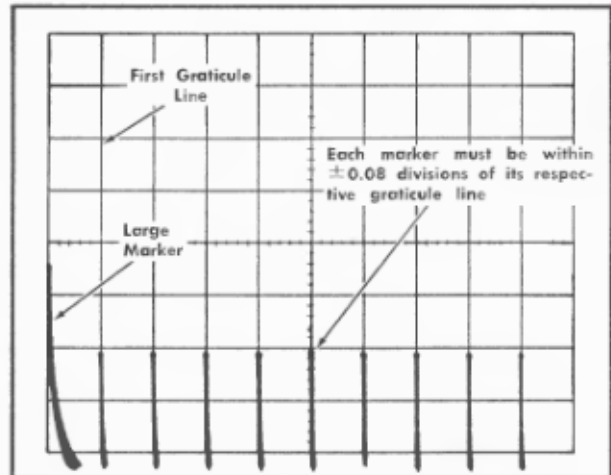

Fig. 6-45. Typical CRT display when checking magnifier timing and linearity.
- c. CHECK—CRT display for one small marker each division between the first and ninth graticule line (see Fig. 6-45). With the second marker positioned to the first graticule line, the tenth marker must be within ± 0.16 division of the ninth graticule line (timing within $\pm 2\%$ when normal sweep calibration, step 38, is adjusted correctly; otherwise check within $\pm 5\%$).
- d. CHECK—Each marker in CRT display must be within ± 0.08 division of its respective graticule line (linearity within 1%; see Fig. 6-45).